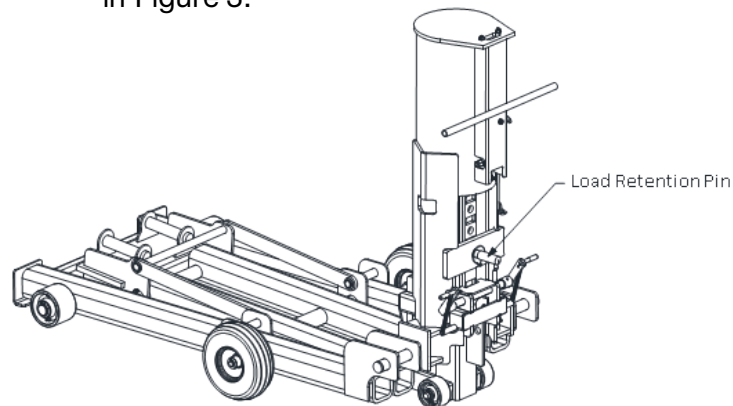

Figure 3
6. Insert the Load Retention Pin, making sure the Load Retention Pin is inserted through both sides of the Down Stop Ladder tube, as shown in Figure 3.